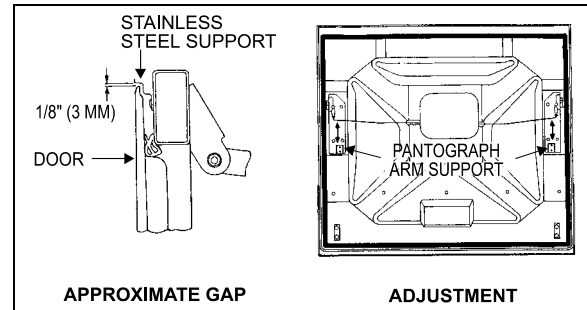

FIGURE 54: BAGGAGE COMPARTMENT DOOR 18064
1. Unscrew and remove both striker pins. Loosen bolts retaining door to pantograph and balance arm supports. With door closed, adjust height so the top of the door fits flush with the adjacent doors. Then, complete tightening the four bolts retaining door to each pantograph arm support. A gap of $1/8$ " (3 mm) between the top of the door and the stainless steel support is given as a guide (Fig. 54).